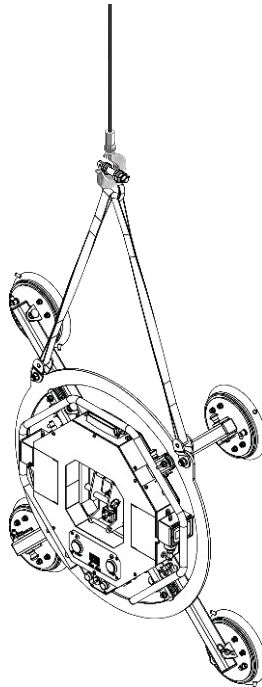

Figure 3.1
**Step 2:** Hook the Rotary Vacuum Lifter into a crane hook (Figure 3.1).